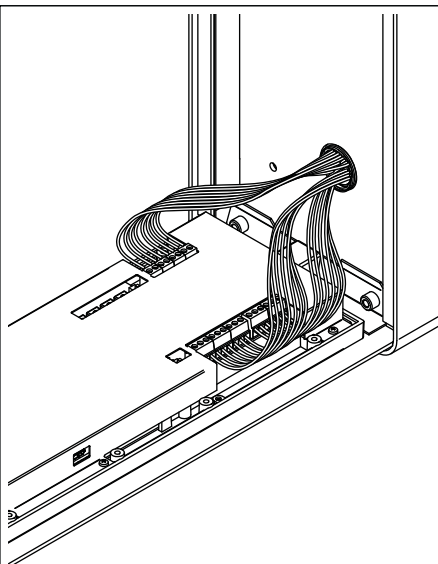

Fig. 4
4. Connect the wires using a terminal screw driver then setup the dip-switches as per provided connection diagram or instruction sheet, then power up the system and check that it works correctly (Fig. 4);